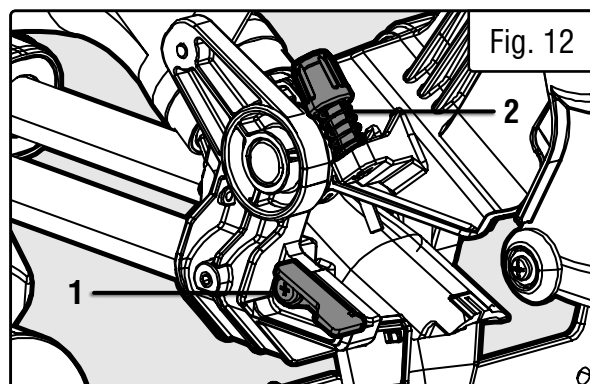

Fig. 12
2. To use the depth stop, flip the depth stop lever (Fig. 12 - 1) down. If you do not want to use the depth stop, flip the depth stop lever up.
3. Rotate the depth stop knob (Fig. 12 - 2) to the desired depth. When you lower the saw arm, the depth stop knob will come into contact with the depth stop lever to stop the saw arm at the desired depth.